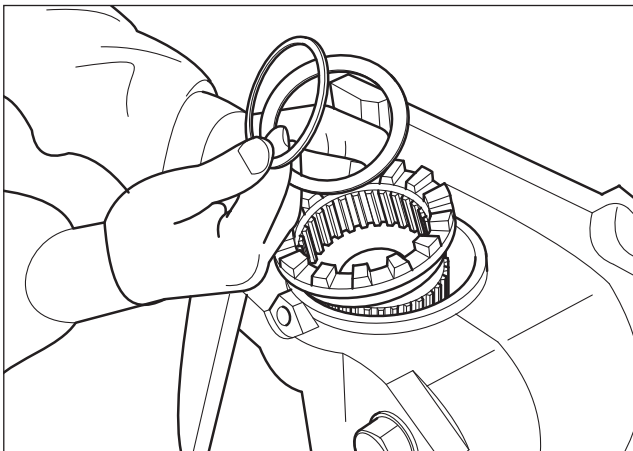

Fig. 2.3
3. Remove snap ring, spacer, and fixed collar. (Fig.2.3)